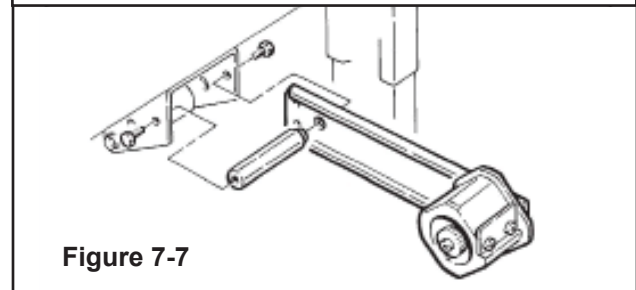

Figure 7-7
- 4 - Install and secure tape drum bracket assembly on the entry end of the lower frame (as shown in **Figure 7-7**).